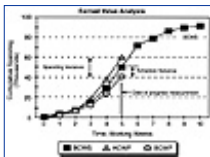
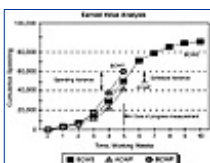

Figure 8-4 Earned value analysis—behind schedule, overspent.
Figure 8-7 Earned value analysis—ahead of schedule, underspent.
Consider the curves shown in Figure 8-4. On a given date, the project is supposed to have cost \$50,000 (50K) in labor (BCWS). The actual cost of the work performed (ACWP) is 60K. (These figures are usually obtained from Accounting and are derived from all of the time cards that have reported labor applied to the project.) Finally, the budgeted cost of work performed (BCWP) is 40K. Under these conditions, the project would be behind schedule and overspent.
In our last example, shown in Figure 8-7, the graph looks like that in Figure 8-4, except that the ACWP and the BCWP curves have been reversed. Now the project is ahead of schedule and underspent.
- When ACWP is below BCWS and BCWP is above BCWS (see Figure 8-7), you are ahead of schedule and underspent. This generally happens because the original estimate was too conservative (probably padded for safety). Another possibility is that you had a lucky break. You thought the work would be harder than it was, so you got ahead. Sometimes it happens because people worked much more efficiently than you expected. The problem with this variance is that it ties up resources that could have been used on other projects. The economists call this an opportunity cost.